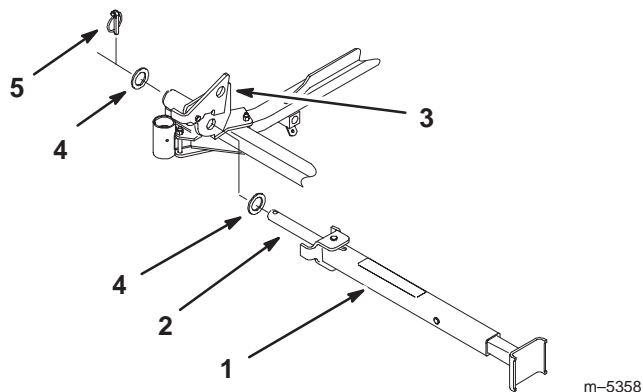

Figure 4
3. Place a thrust washer onto the pivot pin (Fig. 4).
4. Insert pivot pin into the Z-Stand hub as shown in figure 4.
5. Place a thrust washer onto the pivot pin and secure with a lynch pin (Fig. 4).